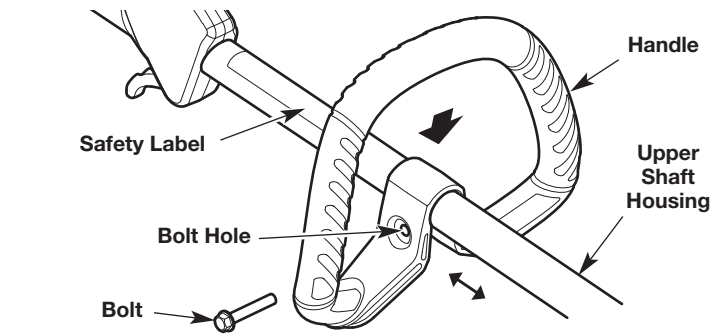

Fig. 6
1. Push the handle down onto the upper shaft housing (Fig. 6). Make sure the bolt hole faces to the right (Fig. 6).
2. Insert the bolt into the bolt hole and push it through (Fig. 6). Tighten the bolt with a flat-head screwdriver, but do not tighten the bolt completely.
3. Hold the unit in the operating position (Fig. 10). Move the handle up or down the upper shaft housing to a comfortable location (Fig. 6). Make sure the handle is positioned beyond the end of the safety label (Fig. 6).
1. Loosen the bolt with a flat-head screwdriver (Fig. 6).
2. Hold the unit in the operating position (Fig. 10). Move the handle up or down the upper shaft housing to a comfortable location (Fig. 6). Make sure the handle is positioned beyond the end of the safety label (Fig. 6).